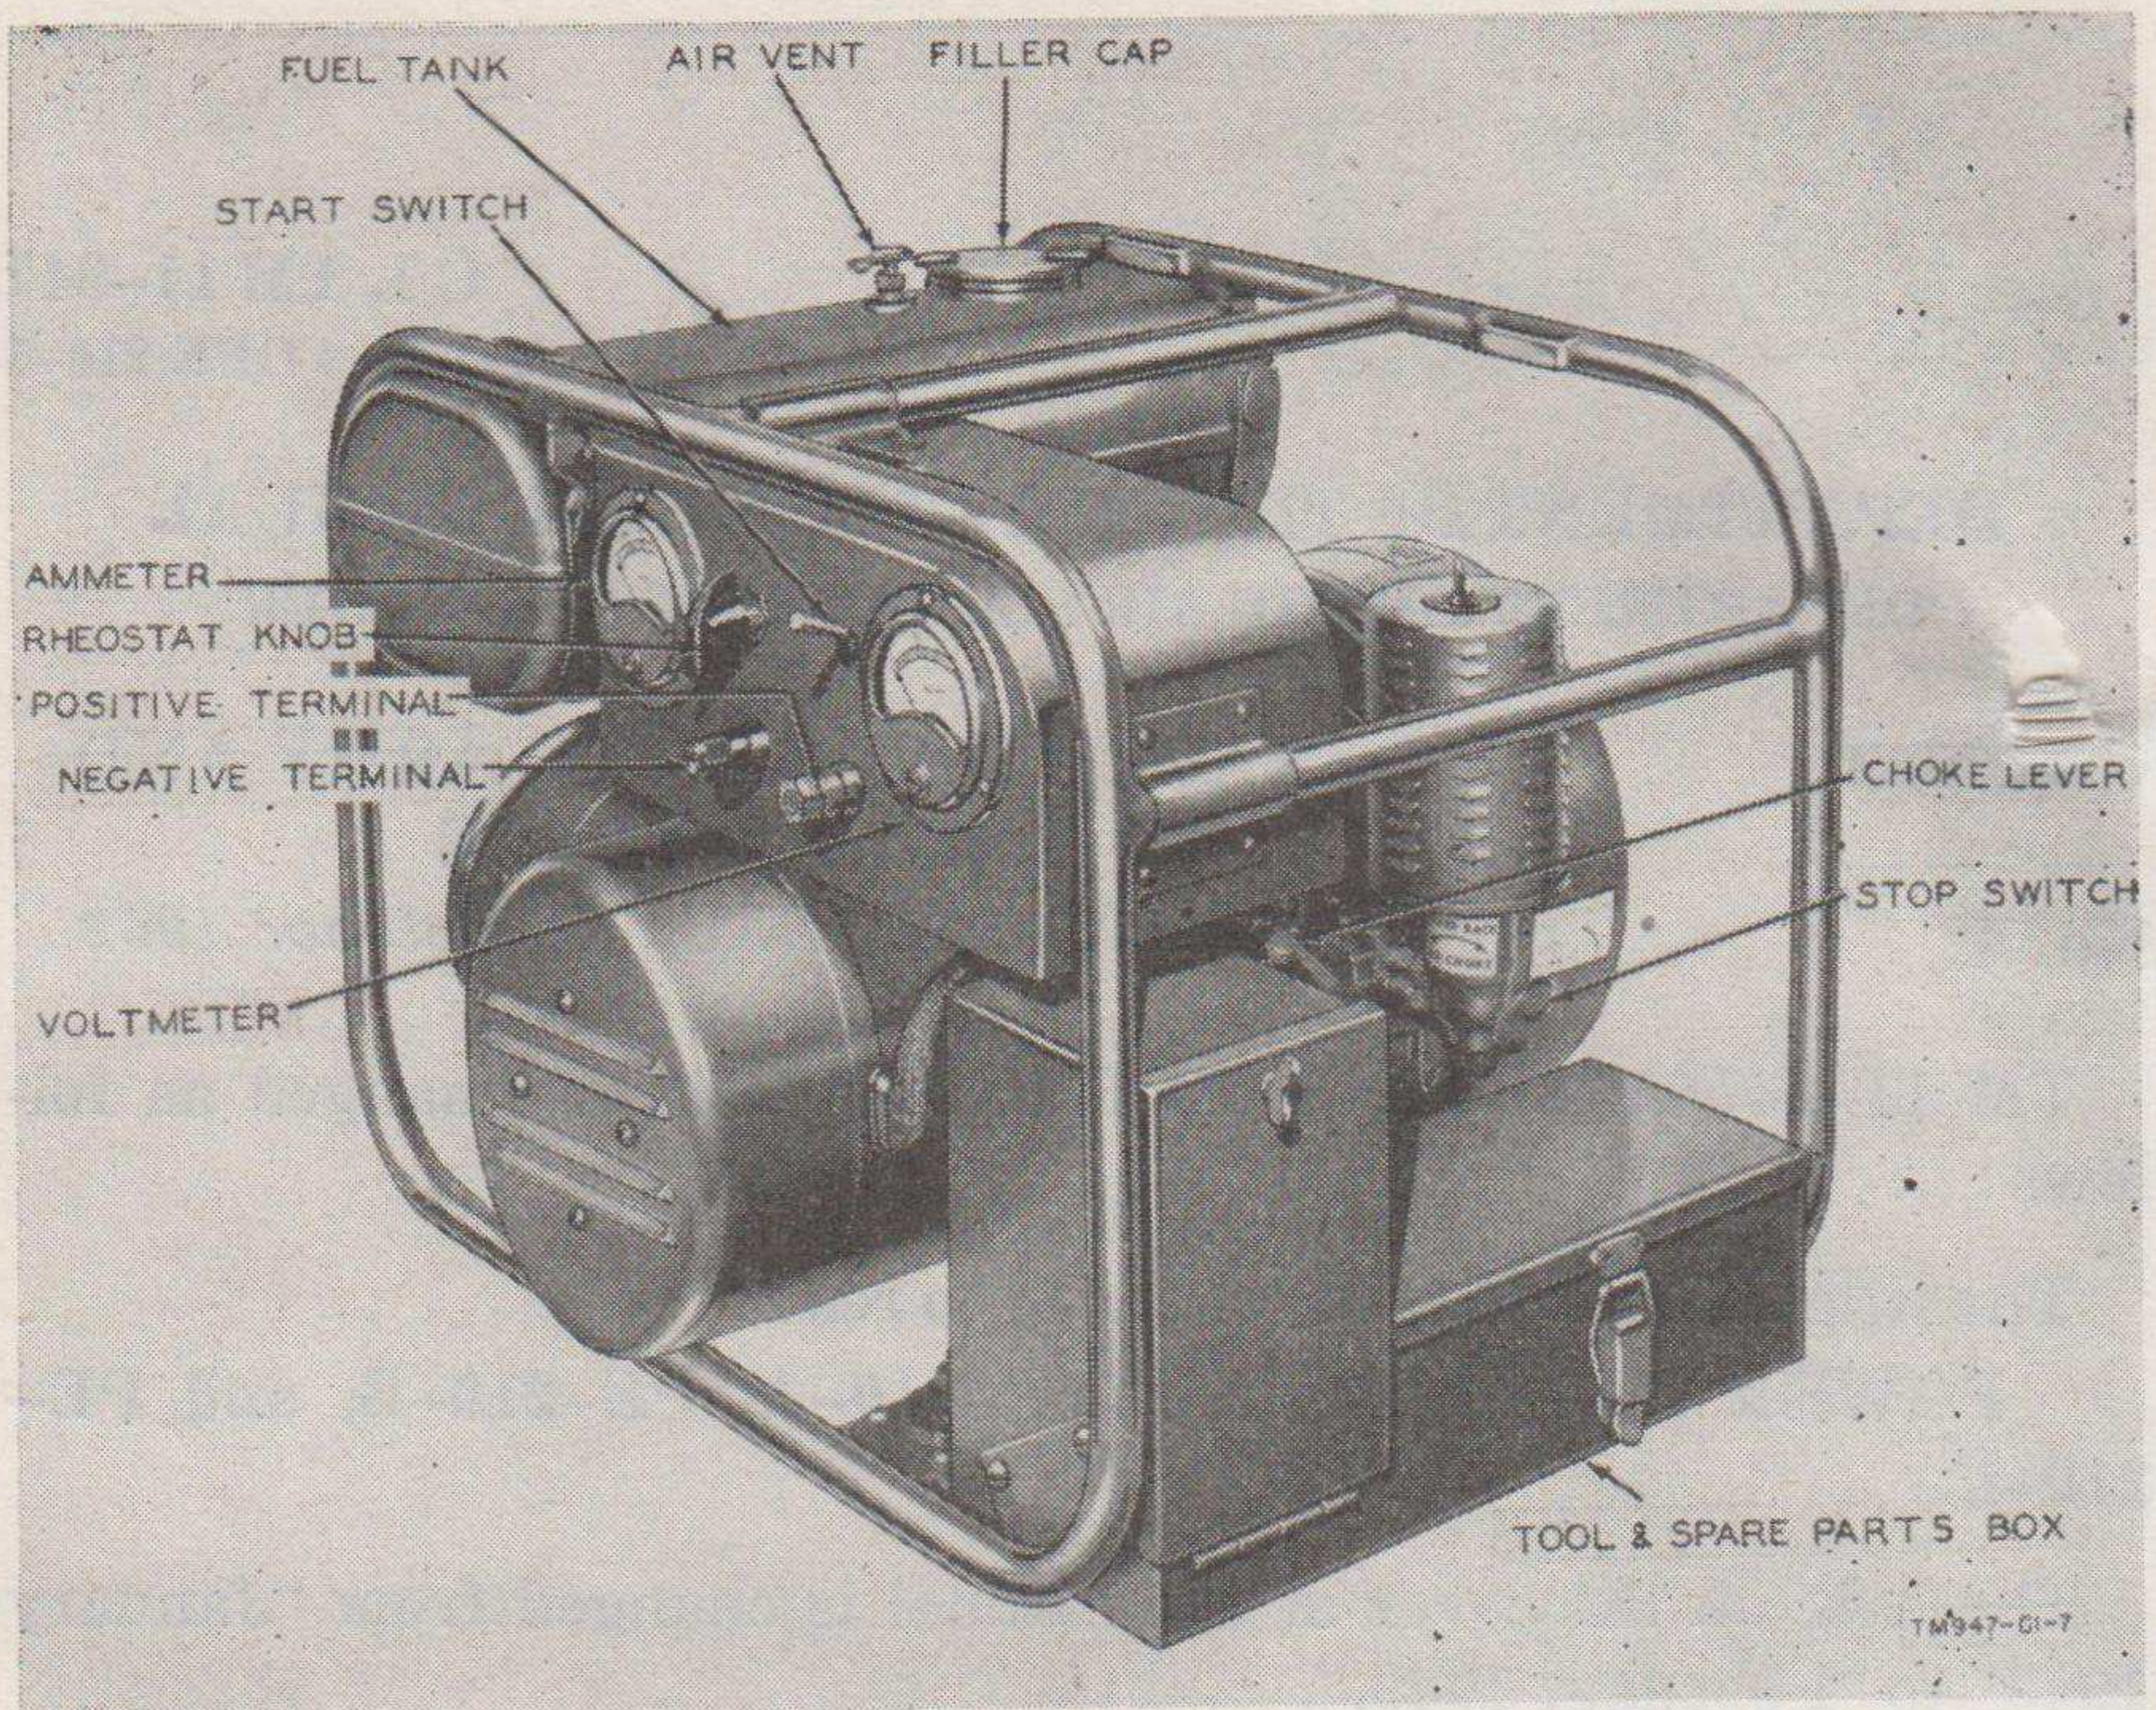

Figure 2.1 (Added) Power Units PE-210-A, -B, and -C, three-quarter view.
*d.2 (Added) Generator Control C-890/U.* This control box, shown attached to the tubular frame of the unit in figure 2.1, contains a rheostat, starting switch, reverse-current relay, a 0- to 50-ampere scale ammeter, a 0- to 30-volt scale voltmeter, and three capacitors. A terminal block is mounted on the inside of the bottom of the box.
- (1) The rheostat, in conjunction with the electric governor, controls the engine speed and generator voltage to permit charging batteries of 6 to 18 volts.
- (2) When the unit is connected to a battery of 12 volts or higher, the starting switch, when held in the ON position, permits the battery current to flow through the generator, and thus causes the generator to act as a motor for cranking the engine.
- (3) The reverse-current relay closes the charging circuit when the generator voltage rises sufficiently to charge the battery. This relay opens whenever the unit is stopped or the voltage output of the generator drops to a point where it cannot oppose the voltage of the battery.